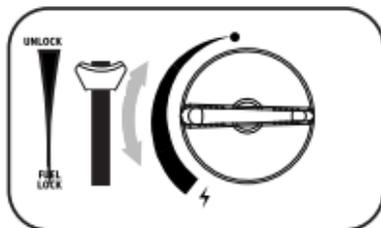

Fig. 11
1. Set the rotary controller (17) to OFF position (16).
3. When the flame is out, press the gas cartridge locking lever (20) up to UNLOCK (14) position. (Fig. 11)